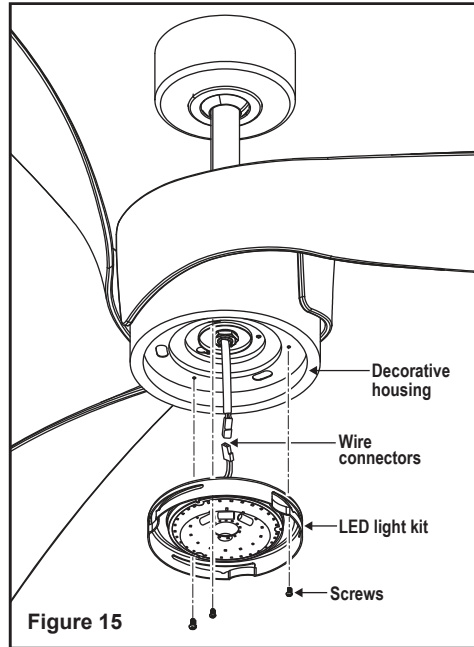

Figure 15
Step 1. Remove 1 of the 3 screws from the decorative housing and loosen the other 2 screws. (Do not remove) (Fig. 15)
Step 2. While holding the LED light kit under your fan, make the polarized plug connections: (Fig. 15)
Step 3. Place the key holes on the LED light kit over the 2 screws previously loosened from the decorative housing, turn LED light kit until it locks in place at the narrow section of the key holes. Secure by tightening the 2 screws previously loosened and the one previously removed. (Fig. 15)